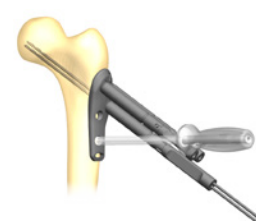

Figure 6b
- Remove the calcar 2.8mm Guide Pin Insert and insert the Parallel Pin Guide (7117-9226) over the inserted 2.8mm Guide Pin (Figure 6a). Rotate the Parallel Pin Guide and insert a second 2.8mm Guide Pin through the second hole in the desired calcar location (Figure 6b). Remove the original 2.8mm Guide Pin and the Parallel Pin Guide. Reinsert the 2.8mm Guide Pin Insert over the adjusted 2.8mm Guide Pin.